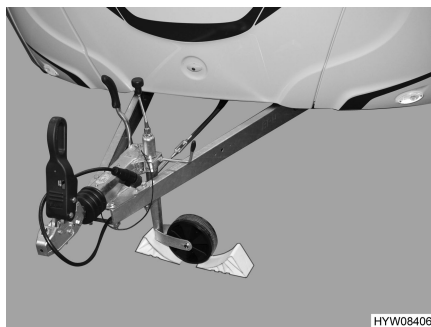

Fig. 96 Securing support wheel
- Place the support wheel diagonal to the direction of travel and secure with suitable tools (Fig. 96).